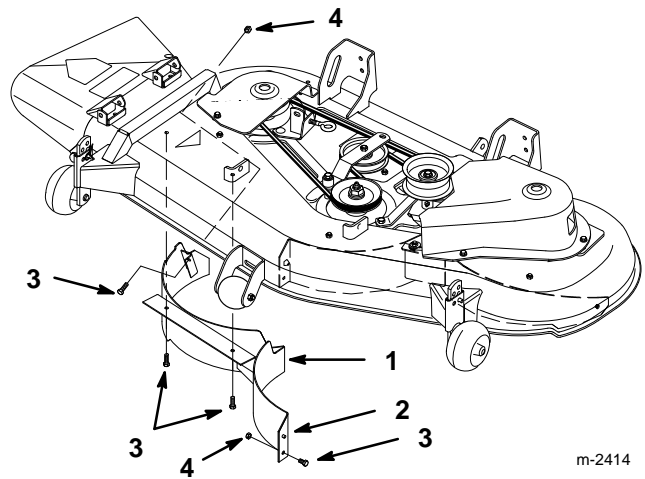

Figure 17
2. Remove lock nuts from top and discharge side and center flange of mower (Fig. 17). Slide baffle into discharge opening and raise into mower so pin on center flange engages left baffle.
3. Secure with previously removed 5/16–5/8” (16 mm) bolts and 5/16” lock nuts in top, discharge side and center flange holes of baffle (Fig. 17).